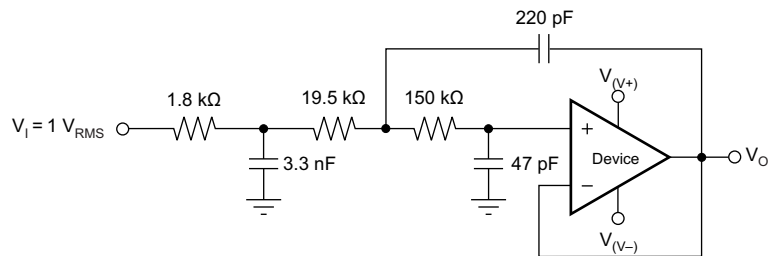

图 37. OPA355-Q1 Configured as a Three-Pole, 20-kHz, Sallen-Key Filter
3. Using a noninverting filter topology, such as the Sallen-Key (see 图 37).